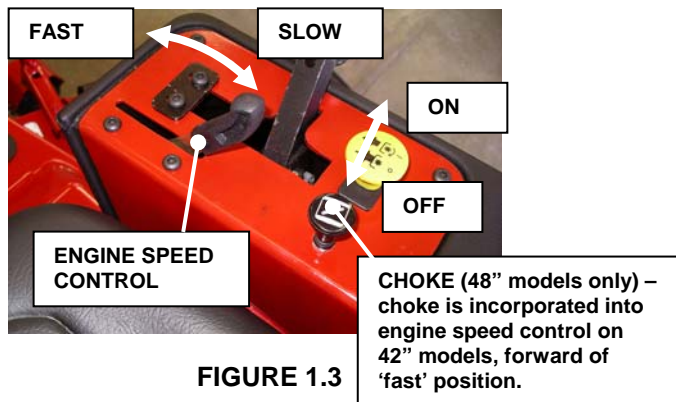

FIGURE 1.3
6. Apply choke. See Figure 1.3.